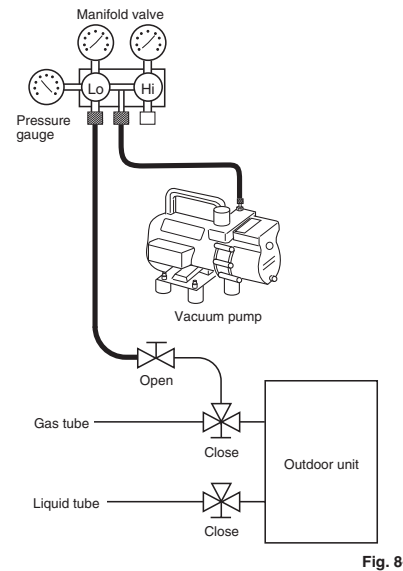

Fig. 8-4
- (1) Attach the charge hose end described in the preceding steps to the vacuum pump to evacuate the tubing and indoor unit. Confirm that the "Lo" knob of the manifold valve is open. Then, run the vacuum pump.
- (2) When the desired vacuum is reached, close the "Lo" knob of the manifold valve and turn off the vacuum pump. Confirm that the gauge pressure is under  $-101\text{ kPa}$  ( $-755\text{ mmHg}$ , 5 Torr) after 4 to 5 minutes of vacuum pump operation. (Fig. 8-4)